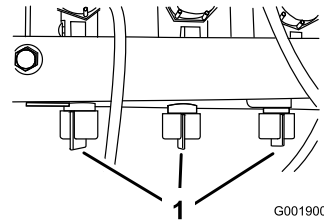

Figure 30
12. Adjust the boom bypass valve (Figure 30) under the boom control valve for the boom you turned off until the pressure reading on the gauge is the same as it was in step 9.